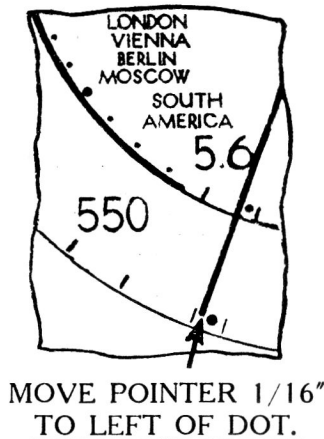

Fig. 6—Dial Calibration
2. Now turn the selector knob clockwise until the dial pointer moves $\frac{1}{16}$ of an inch to the left of the small dot and the first straight line on the scale (See Fig. 6). Hold pointer and condenser in this position, and carefully loosen shaft coupling set screws.